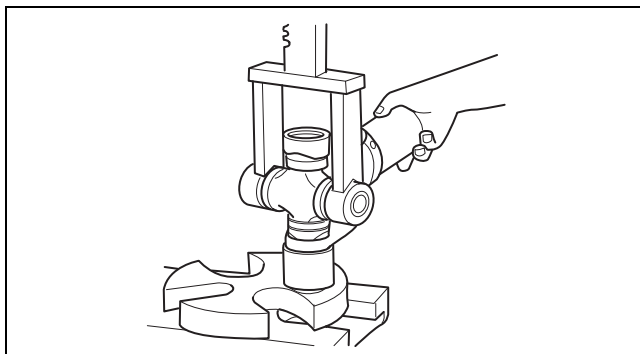

Figure 8.11
3. Rotate the shaft 180 degrees. Repeat the procedure for the opposite side of the universal joint. Figure 8.11.